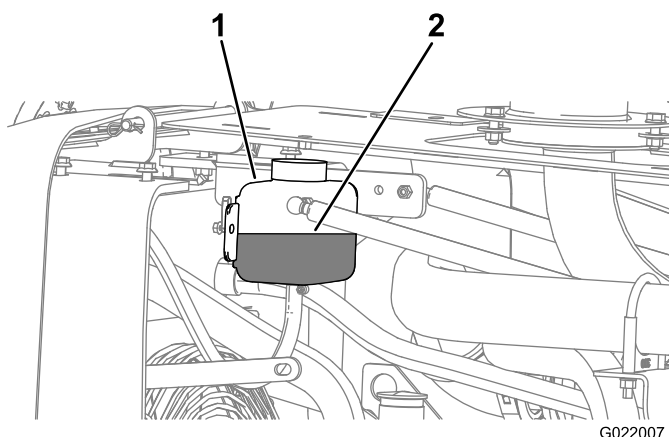
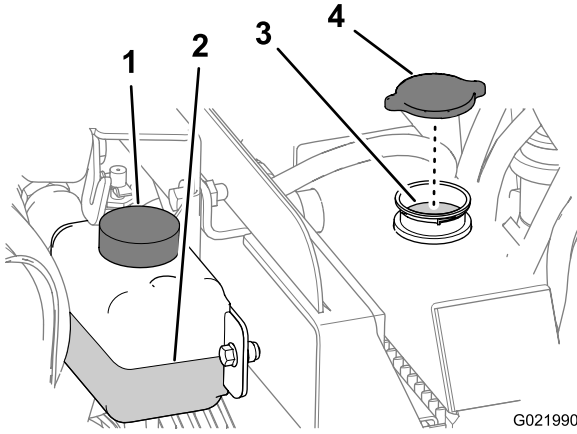

Figure 138
Figure 139
4. Check the coolant level in the reservoir (Figure 138).
4. Remove the radiator cap from the filler neck of the radiator and check the coolant level (Figure 138 and Figure 139),
5. If the coolant level is low, add coolant until the level is up to the bottom of the filler neck (Figure 139).
6. Install the radiator filler cap, ensuring that it is tightly sealed (Figure 139).
4. Remove the radiator cap (Figure 139).
2. Remove the radiator cap (Figure 139).
4. Install the radiator cap (Figure 139).